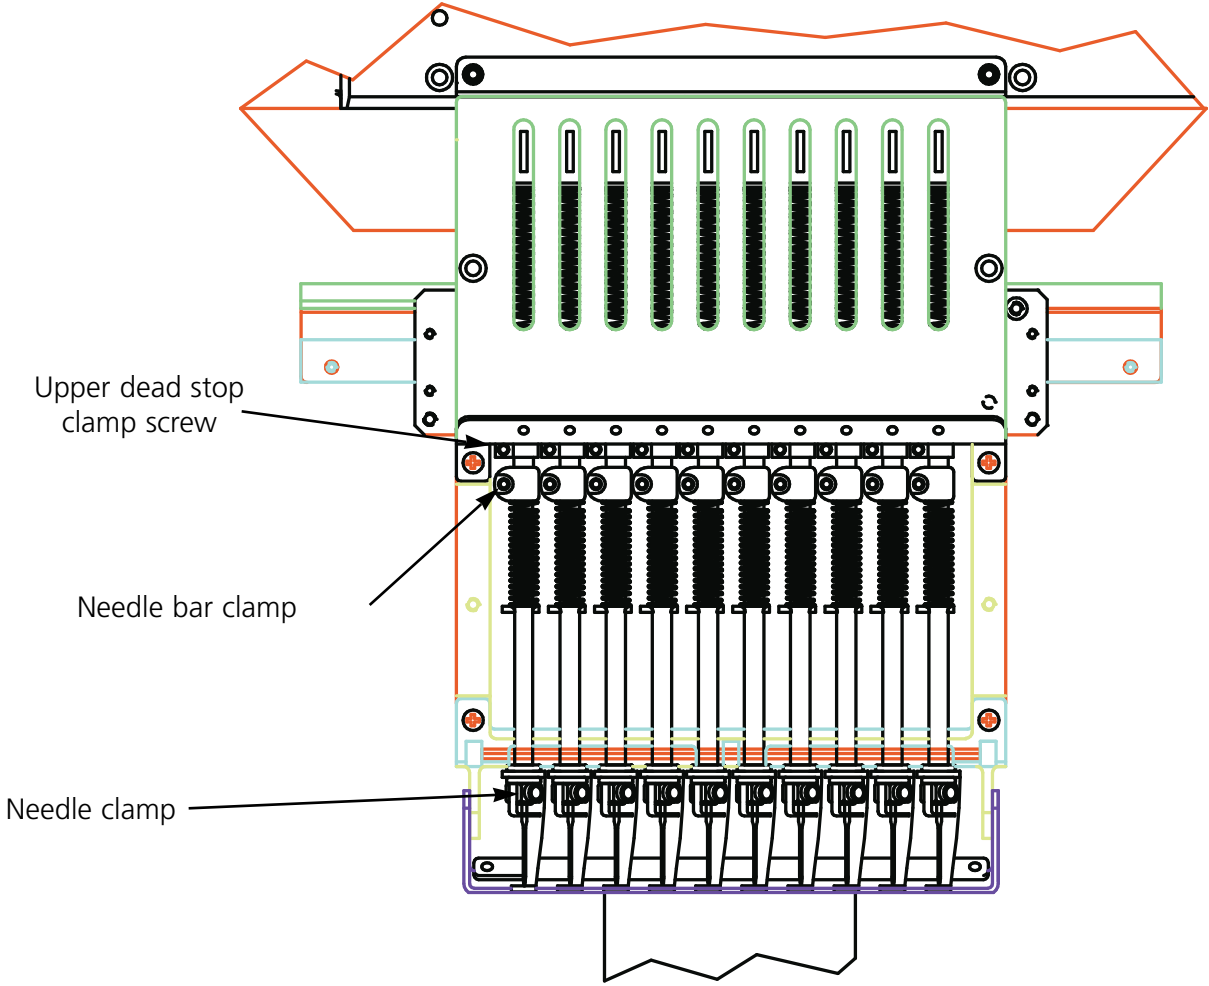

Figure 5-11
11. Hold the needle bar in place and retighten the needle bar clamp screw (see Figure 5-11)